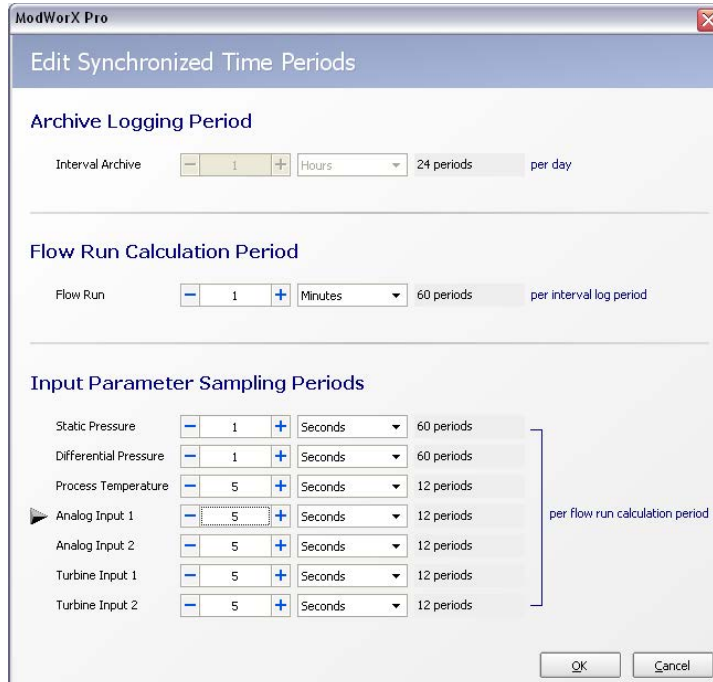

Figure 6.23
- i. Click **Edit**. The Edit Synchronized Time Periods dialog will appear, and an arrow will point to Analog Input 1 or Analog Input 2 (Figure 6.23, page 84).